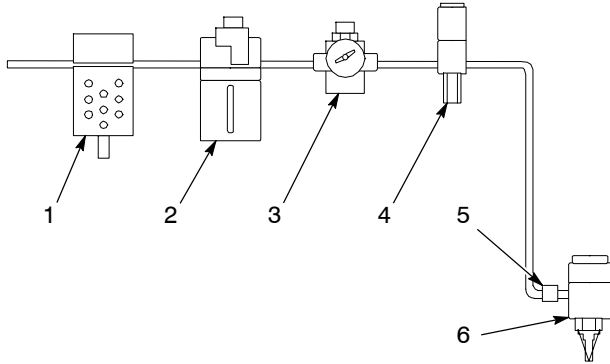

Figure 6 Air Line Connection Schematic with Quick-Release Valve on Valve-Open Air Inlet
**NOTE:** Dispensing action may lag if the solenoid is too far from the dispensing valve (5).
3. See Figure 6. If you are using a quick-release valve (5), install it as close to the valve-open air inlet as possible.